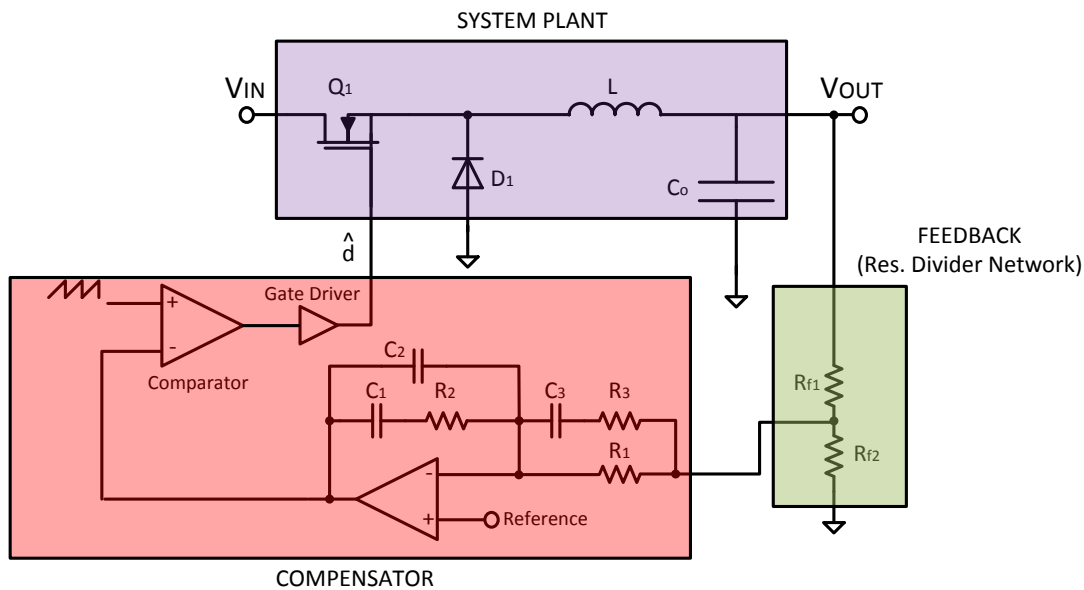

Figure 2 – Voltage Mode Buck Converter
The Single-Loop System option is used when the power supply includes one compensator, with a single feedback loop. For example a voltage mode (VM) step-down or Buck converter, see Figure 2 below, where the output voltage is monitored via the feedback resistor divider network and compared against a reference/set-point voltage. Based on the measured error the compensator will calculate the PWM duty cycle to ensure that the output voltage is well regulated.